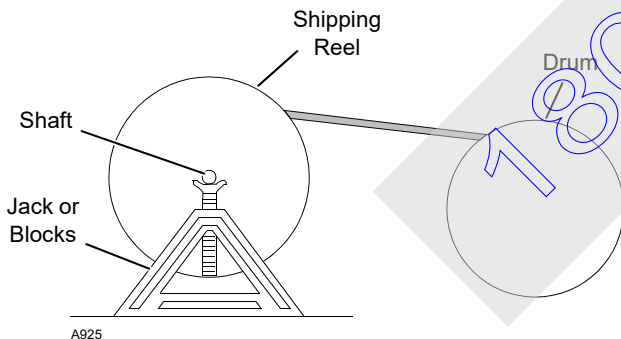

FIGURE 4-61
1. Mount wire rope shipping reel on a shaft supported at both ends by jacks or blocks as shown in Figure 4-61.